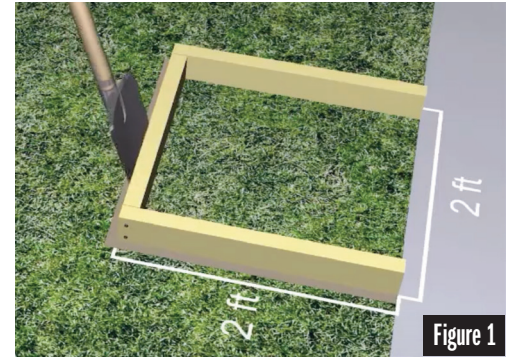

Figure 1
STEP 1: Build a 2' x 2' frame out of 2" x 4" lumber & lay it on the ground where you want the hoop installed. See Figure 1.
STEP 2: Using a shovel, cut into the ground around the outside of the frame to give the hole a defined edge; remove frame. See Figure 1.